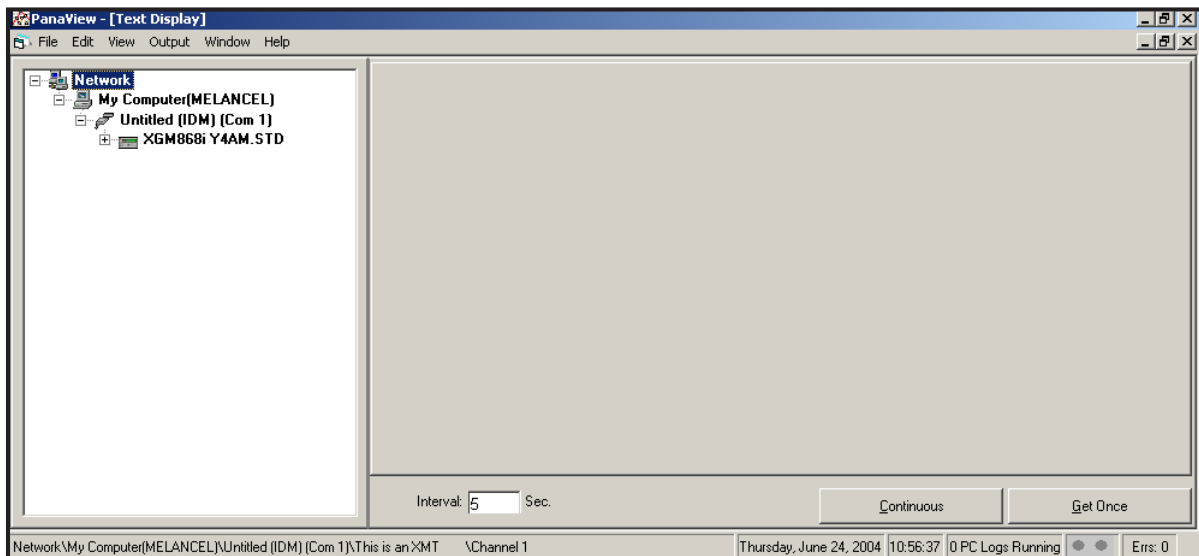

Figure 3: Text Display Window
3. Using the *Window* menu, arrange the open windows in the desired format. For this discussion, Figure 3 shows the *Text Display* window in its maximized (full-screen) size.
Note: Figure 3 has been compressed both vertically and horizontally for improved clarity.
5. Before actual data values can be displayed in the text pane, activate one of the following data collection modes (refer to Figure 3 on page 47):